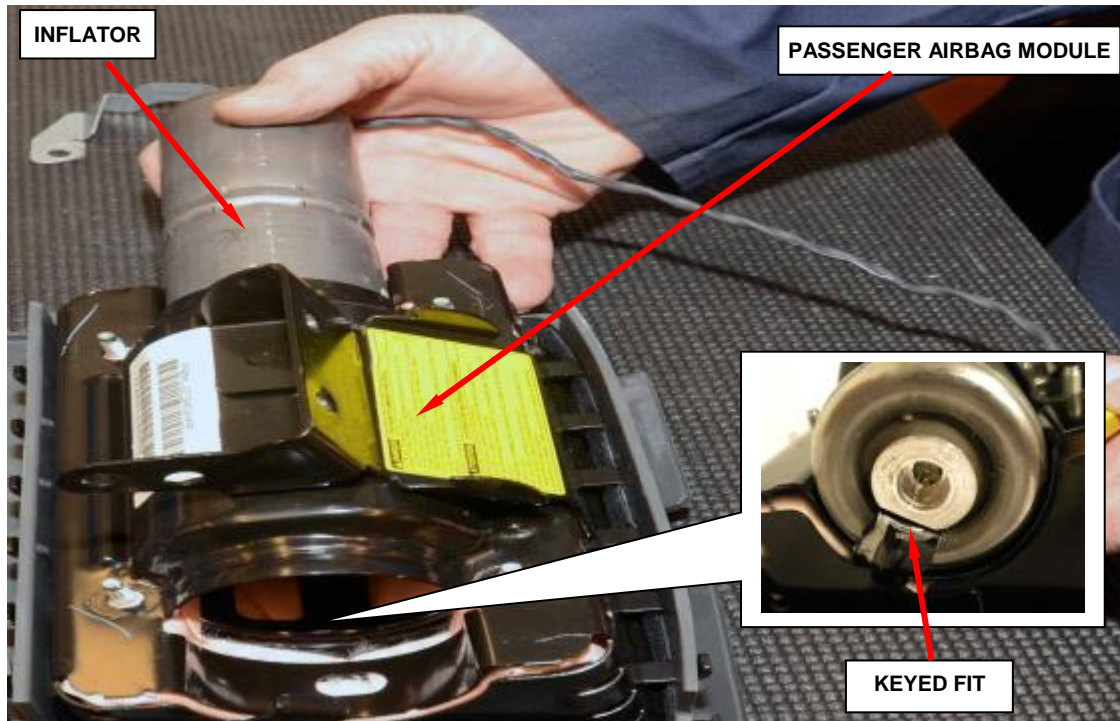

Figure 72 – Passenger Airbag Inflator to Housing
- f. Slide the inflator out of the passenger airbag module (Figure 72).
NOTE: The inflator's key **MUST** line up with the housing's key (Figure 72).
m. Slide the **new** inflator into the passenger airbag module (Figure 72).
NOTE: The inflator is keyed to fit into the housing (Figure 72).